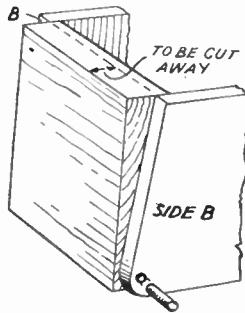

Fig. 3—How the ends are made
and driven through the sides at a point shown as (X) on the pattern. These dowels hold the sides with the ends perfectly rigid when it comes to doing the shaping, as shown in the detail Fig. 3.